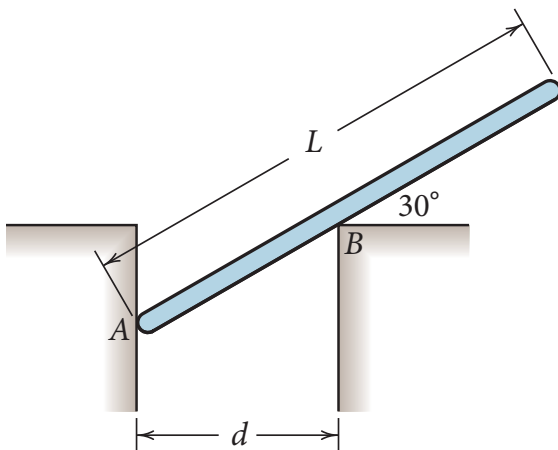

Figure 5
5. The uniform slender bar of length  $L$  is placed in the opening of width  $d$  at the  $30^\circ$  angle shown in Figure 5. For what range of  $L/d$  will the bar remain in static equilibrium? The coefficient of static friction at  $A$  and  $B$  is  $\mu = 0.40$ . (Answer:  $2.37 \leq L/d \leq 8.14$ )